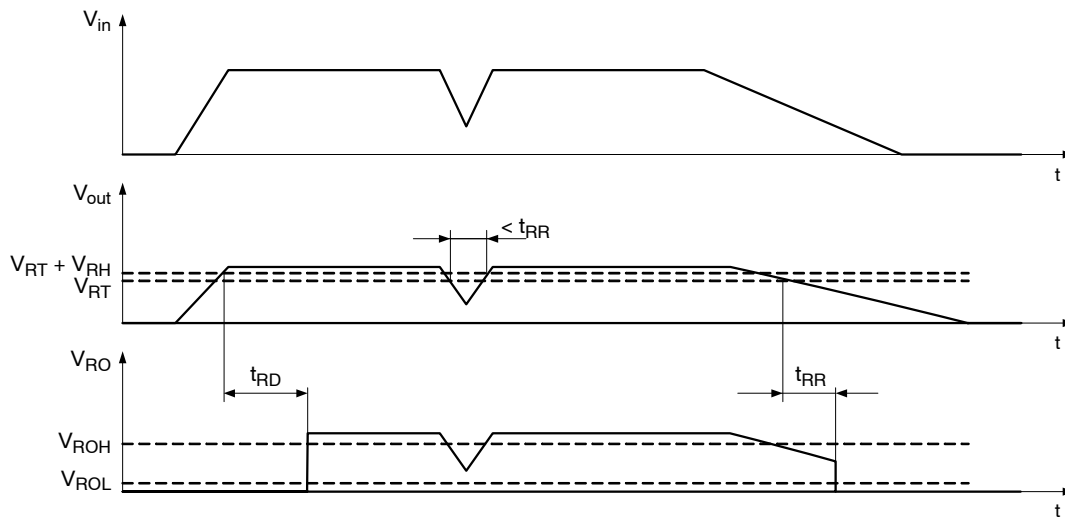

Figure 31. Reset Function and Timing Diagram
A reset signal is provided on the Reset Output (RO) pin to provide feedback to the microprocessor of an out of regulation condition. The timing diagram of reset function is shown in Figure 31. This is in the form of a logic signal on RO. Output voltage conditions below the RESET threshold cause RO to go low. The RO integrity is maintained down to $V_{out} = 1.0$ V. For 5 V voltage option, the Reset Output (RO) circuitry includes internal pull-up (30 k Ω) connected to the output (V_{out}). No external pull-up is necessary. For voltage options and 3.3 V RO is open drain output and external pull-up resistor is required. Select pull-up resistor in range between 5 k Ω to 100 k Ω with respect to I_{ROmax} and I_{ROLK} limits to keep V_{RO} logic levels at appropriate range.